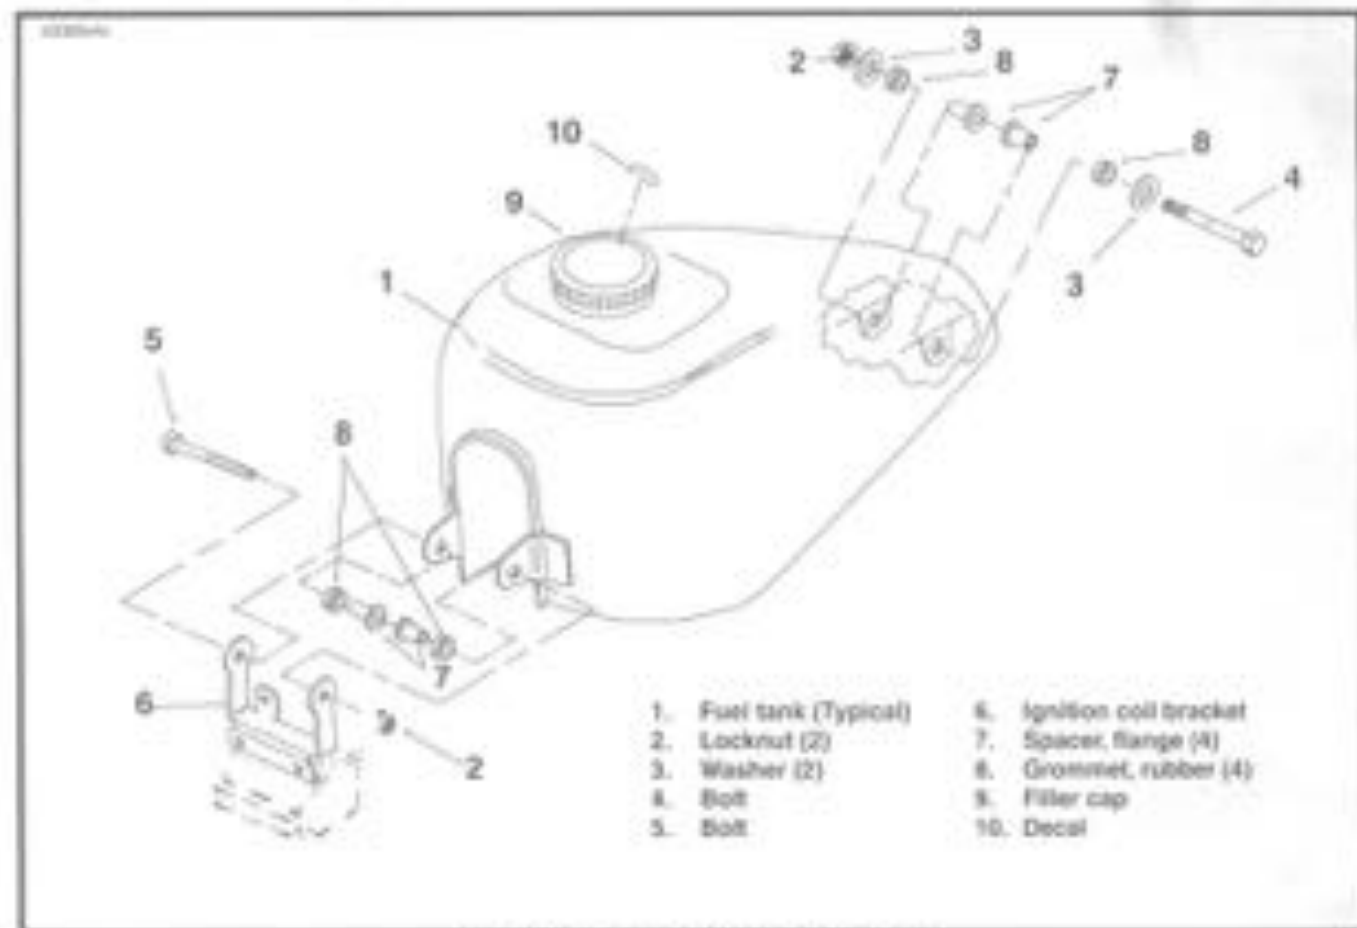

Figure 4-10. Fuel Tank Mounting Hardware
See Figure 4-10. The fuel tank is a one-piece welded tank. Although the tank interior is treated to resist rusting, further protection is required if the motorcycle is to be placed in storage. Drain the tank completely and apply a one-to-one oil/fuel mixture (or a commercially available fuel tank rust preventative) to the tank interior.
3. See Figure 4-10. Remove mounting hardware from front and rear of fuel tank.
3. See Figure 4-10. Install front and rear mounting hardware. Tighten fasteners to 5-15 5-8m (11-22 Nm) torque.